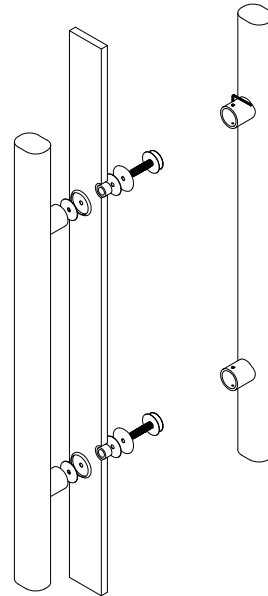

Figure 12c
1. Fit the hinges on door according to Figure 12c.
2. Fit the door to glass wall according to Figure 12c.